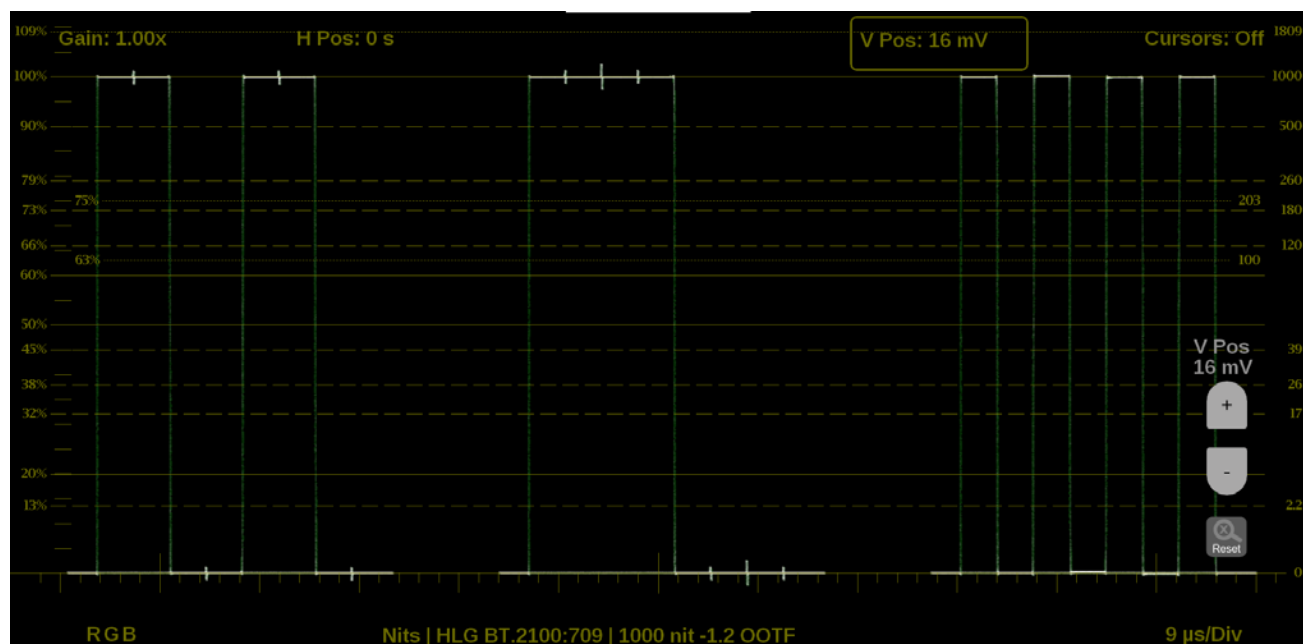

Figure 75: Waveform on-screen tools – vertical position
2. Touch the **V Pos** button to allow adjustment of the vertical trace. (See Figure 75.)